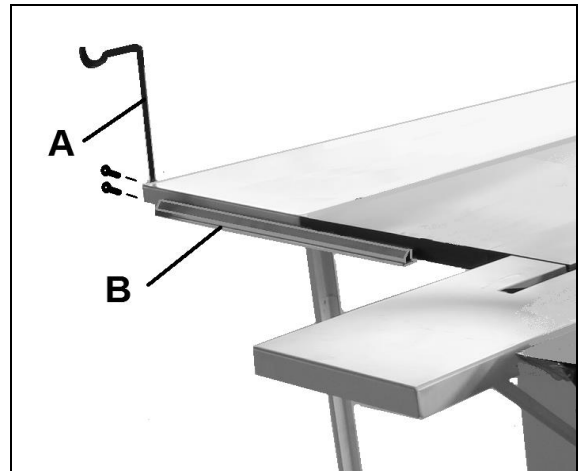

Fig 8-2
Install the hose support (A, Fig 8-2) and the table support (B).